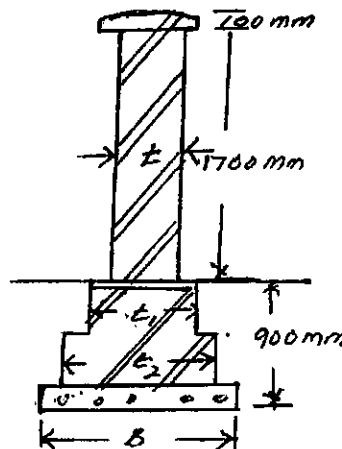

Fig.Q10(b)
- b. Design a compound wall, the height of which, is 1.8m up to the top of coping. Assume wind pressure equal to 1000 N/m^2 and is uniformly applicable. The safe bearing pressure on the soil is 120 kN/m^2 . Hard bed is available at a depth of 900mm below ground level. Refer below Fig.Q10(b). (12 Marks)